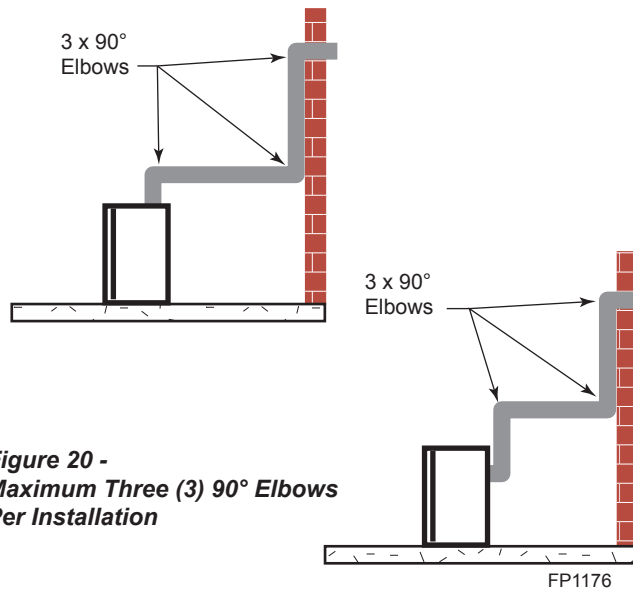

Figure 20 -
- The maximum number of 90° elbows per side wall installation is three (3). *Figure 20*